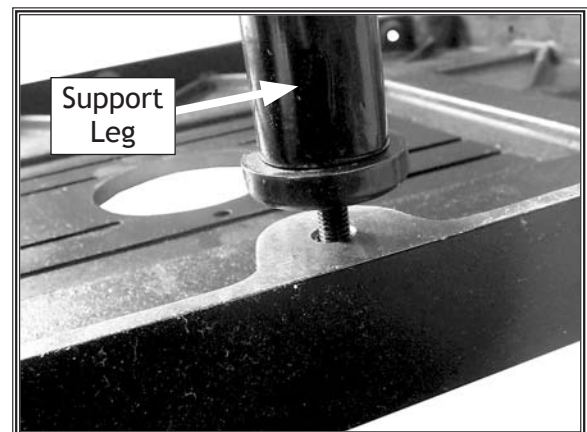

Figure 6. Support leg threaded into the router table.
4. Thread the support leg onto the stud on the bottom of the router table, as shown in Figure 6.